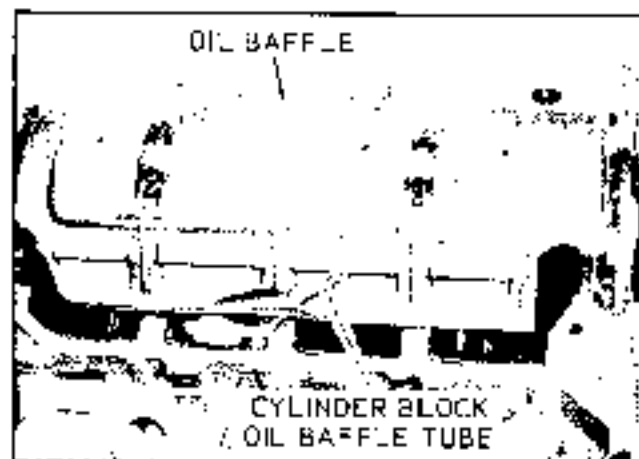

Fig. 6-107 Engine Oil Baffle and Dipstick Tube
2. Remove oil pump and baffle (Fig. 6-107).